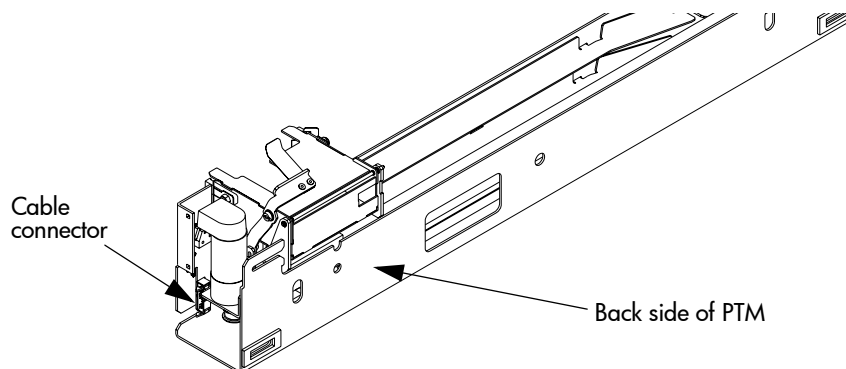

Figure 24: PTM cable connection
7. Connect the PTM cable to the PTM (see Figure 24).
Note: In Figure 24, the PTM is shown outside of the library for clarify.